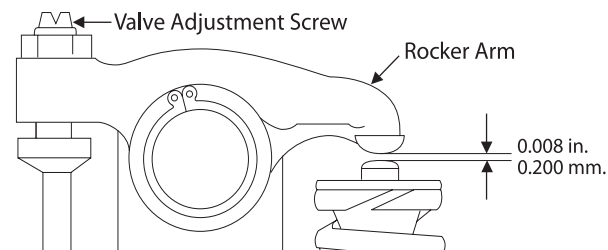

Figure 10: Valve Adjustment
3. Loosen the lock nut and adjust the clearance between the rocker arm and valve stem of both the intake and exhaust valves with the adjustment screw (Figure 10). Clearance on both intake and exhaust valves should be 0.008 in. (0.2 mm).